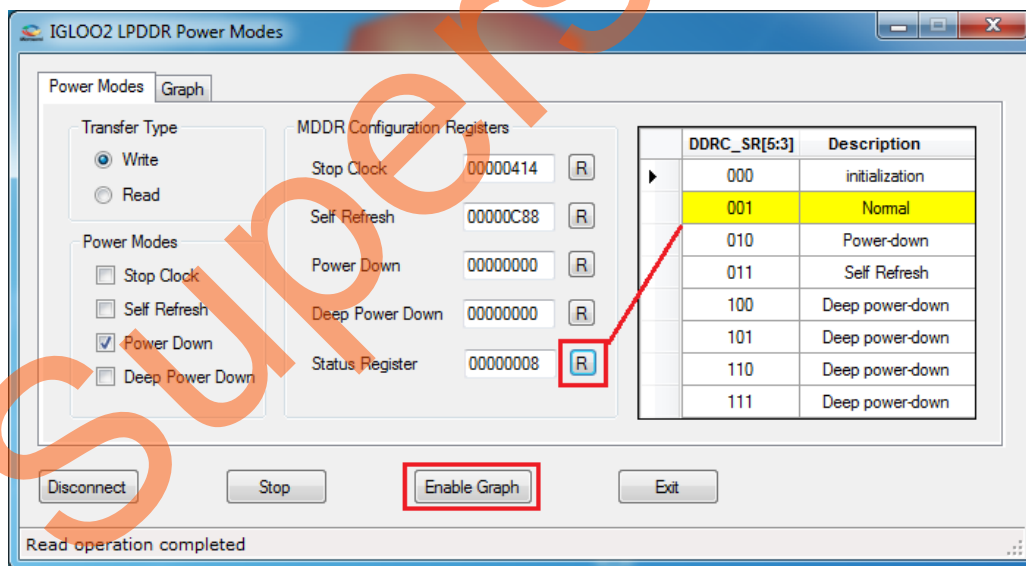

Figure 20 • Normal Mode after Exiting Power Down Mode
11. Click Status Register **R**. Figure 20 shows the normal mode after exiting the power down mode.
12. Click **Enable Graph** as highlighted in Figure 20 on page 23.